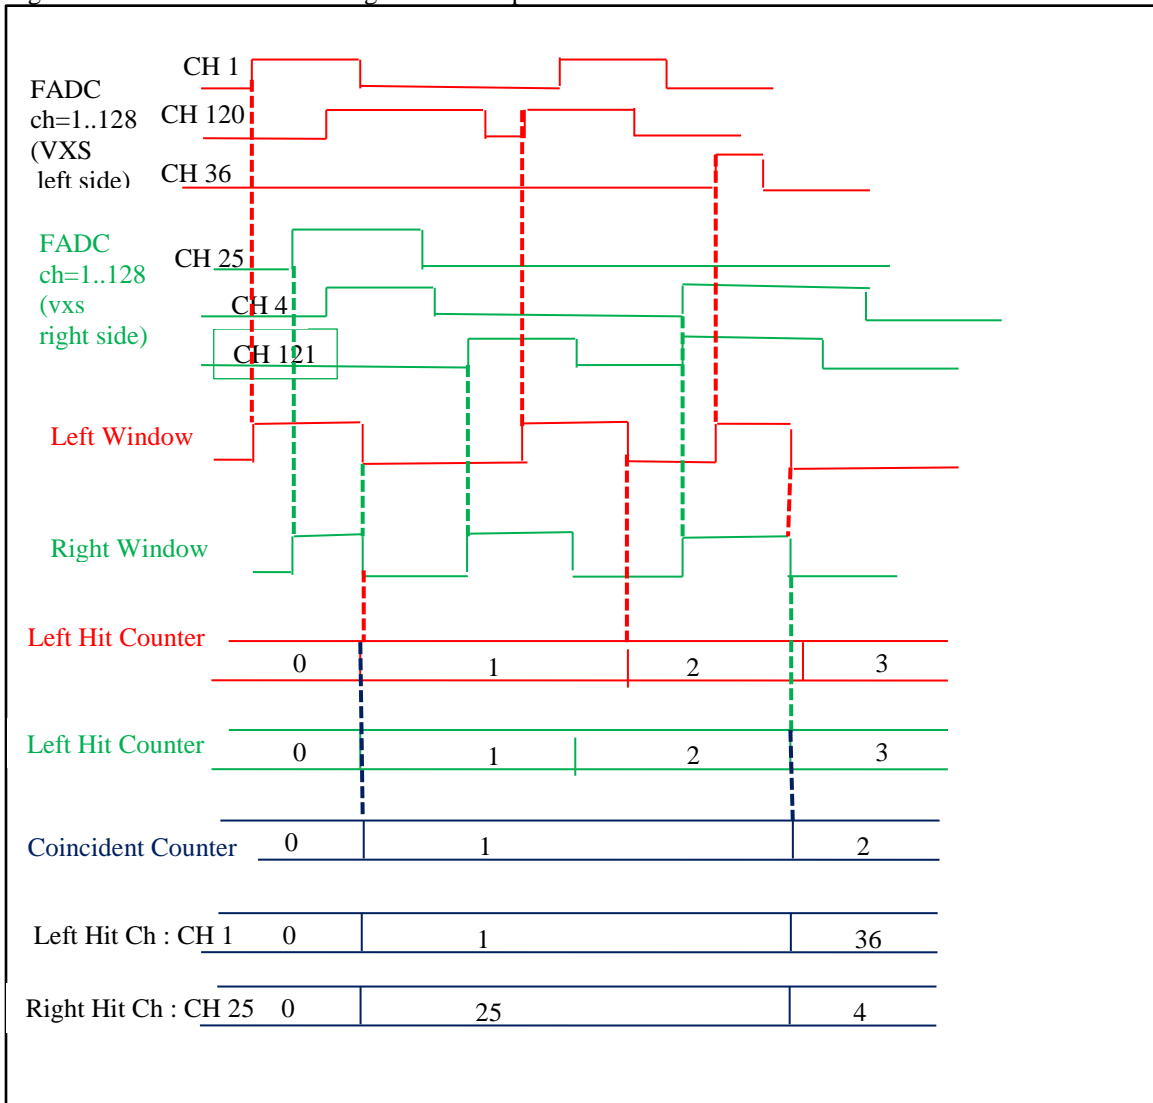

Figure 3: Spectrometer Arm Processing
14.0 Figure 3 and 4 show the firmware (VHDL code) block diagrams.